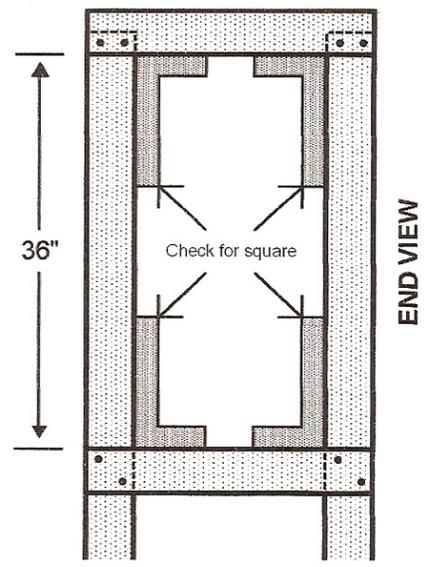

Figure 3
STEP 3: Reposition the scrap 2x4 on edge across the end of the 4x4's. Take one of the 24" 2x4's and place flat on 4x4's so that its ends are flush with the sides of the 4x4's and its edge is flush with top of scrap 2x4. Secure with two 3" deck screws into each 4x4. Remove scrap 2x4. (Figure 3).